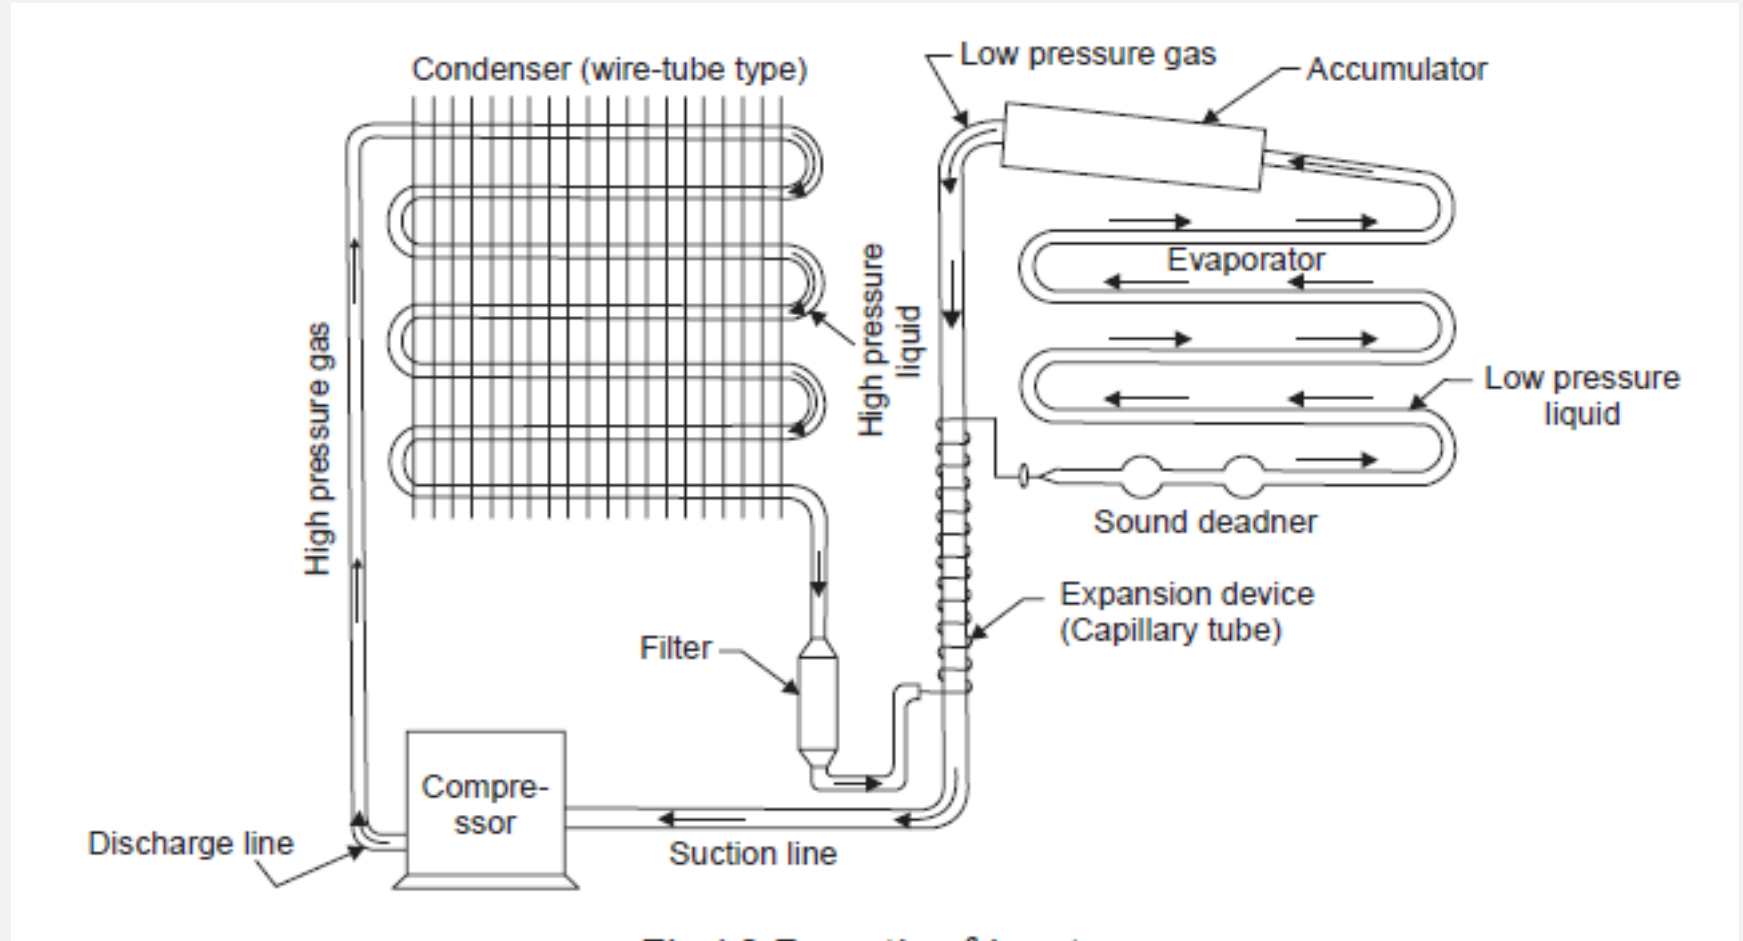

Figure R1
11. The various parts of a simple domestic vapour compression cycle are: Compressor, Discharge line (or hot gas line), Condenser, Receiver tank, Liquid line, Expansion valve (capillary tube), Evaporator and Suction line as illustrated in Figure R1